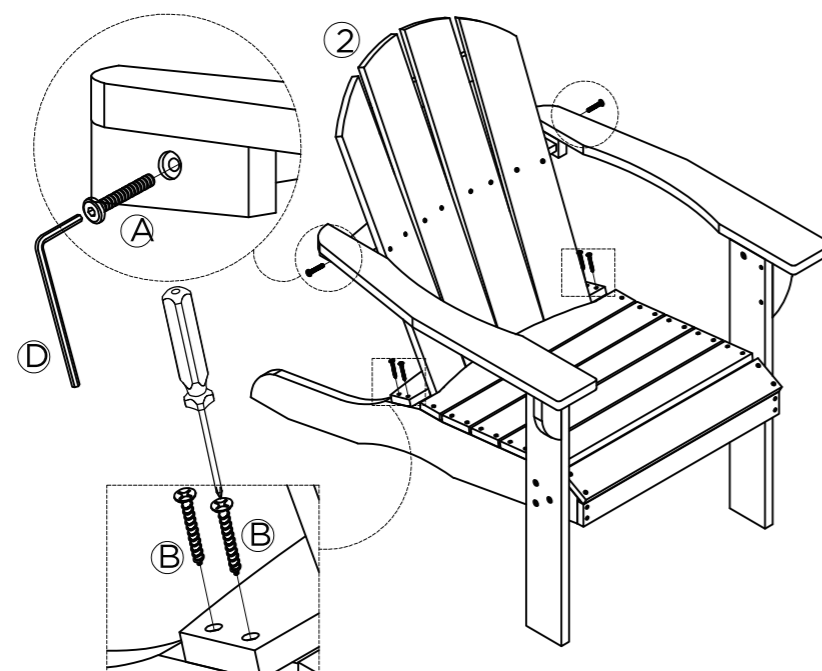

Fig. 3
Connect Backrest (2) with Seat Frame (1) by screws (B). Tightening using screwdriver (not included). See Fig. 3.